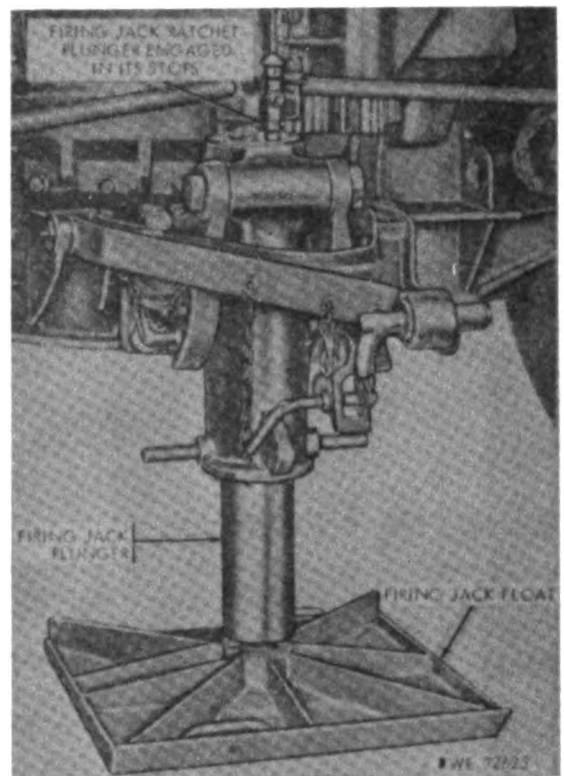
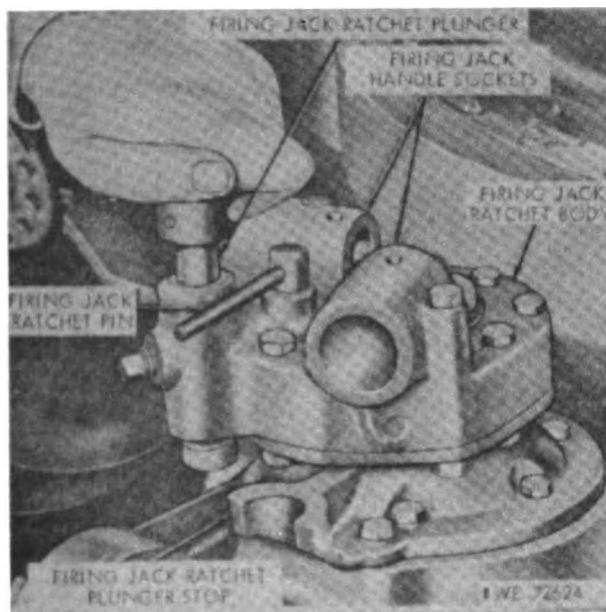

Figure 57. Carriage M1A2 and M32 firing jack and traveling lock—firing position.
Figure 56. Rotating carriage M1A2 and M32 firing jack ratchet body.
- (d) Move the firing jack ratchet pin (fig. 56) toward the firing jack
ratchet plunger as far as it will go. Rotate the firing jack ratchet body clockwise to lower the firing jack ratchet plunger under the flat side ball at its lower end is a few inches above the socket in the center of the firing jack float (fig. 57). Lift the float into position on the lower end of the firing jack plunger, and lock it in place by rotating the float one-quarter turn.
(e) Remove the firing jack handles from the upper and lower firing jack handle supports on the front of the right shield (fig. 54), and insert them in the firing jack handle sockets in the ratchet body (fig. 56). Operate the firing jack handles horizontally until the tires clear the ground.
(f) Aline the firing jack ratchet plunger directly over the firing jack plunger stop (fig. 56) by moving the ratchet body counter-clockwise, and depress the ratchet plunger to engage the stop (fig. 57).
(g) The weapon is then in firing position (fig. 57).